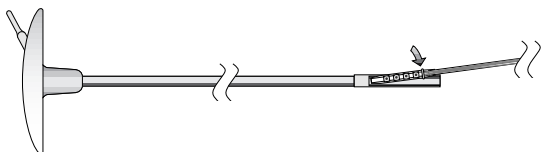

Figure 13. Gently place the lead end of the extension into the carrier.
- Carefully insert the lead end of the extension into the carrier port until it snaps into place (Figure 13).